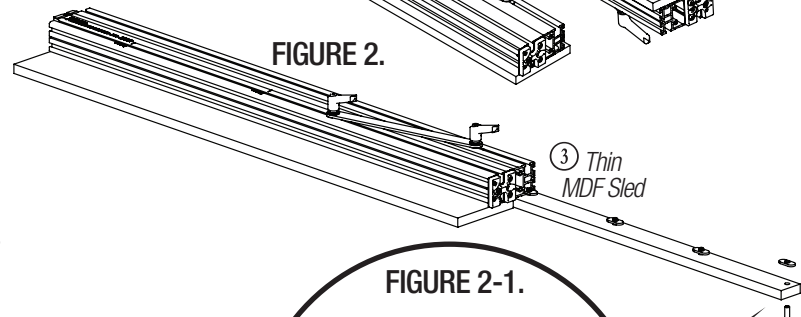

FIGURE 2-1.
1. Place (6) Screws through the Thin MDF Sled ③ then thread the (6) Oval Nuts onto the end of each Screw. **FIGURE 2-1.**